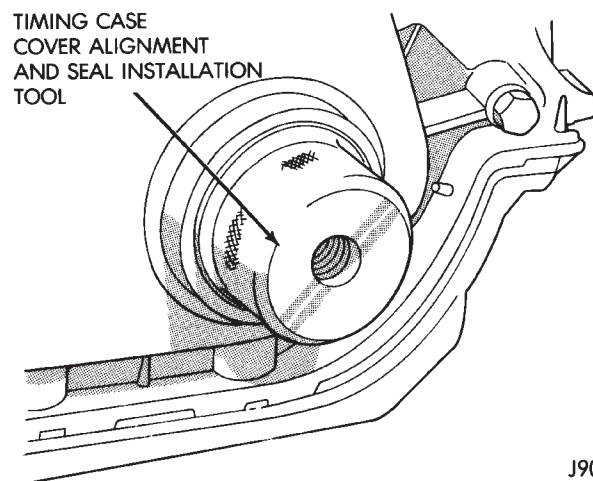

Fig. 42 Timing Case Cover Alignment and Seal Installation Tool 6139
(2) Install a new crankshaft oil seal in the timing case cover. The open end of the seal should be toward the inside of the cover. Support the cover at the seal area while installing the seal. Force it into position with Seal Installation Tool 6139.
(3) Position the gasket on the cylinder block.
(4) Position the timing case cover on the oil pan gasket and the cylinder block.
(5) Insert Timing Case Cover Alignment and Seal Installation Tool 6139 in the crankshaft opening in the cover (Fig. 42).